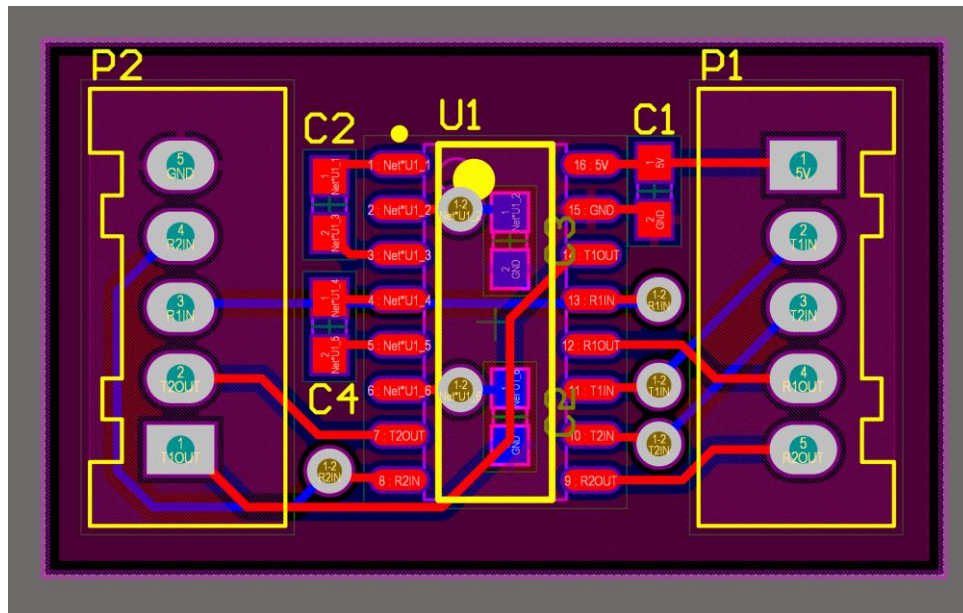

Figure 23: Finished View of Our Board
29. Now you're done! Your board should now look like Figure 23.